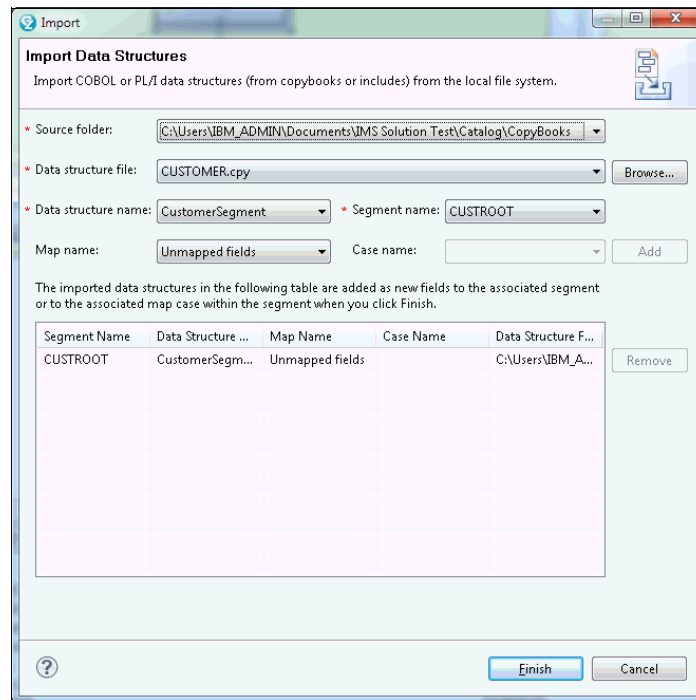

Figure 8-34 Importing the metadata for a database segment
3. In the COBOL copybook that you selected, there is only one definition layout. Click **Add**, as shown in Figure 8-34, to add this structure as the metadata for the CUSTROOT segment.